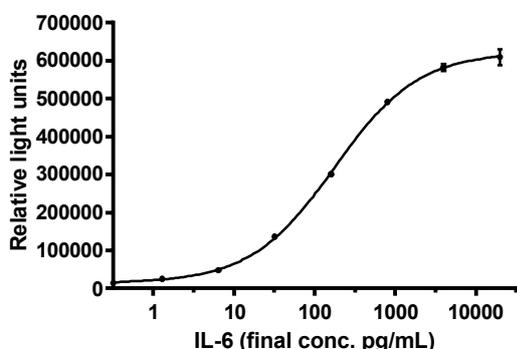

Figure 1. Example of IL-6 calibration curve.
The *iLite*® IL-6 Assay Ready Cells are engineered cells optimized to express Firefly luciferase under the control of a IL-6 responsive promoter. Binding of IL-6 to the membrane bound IL-6 receptor (IL-6RA and IL6ST) results in activation of the IL-6 regulated Firefly luciferase reporter gene construct. *iLite*® IL-6 Assay Ready Cells also contain the Renilla Luciferase (RL) reporter gene, under the control of a constitutive promoter. The constitutive expression of RL allows normalization of IL-6 induced FL activity, and renders assay results independent of variations in cell number or serum matrix effects. The luciferase signal can be measured in a luminometer following addition and incubation of luciferase substrate. The Firefly luciferase signal is proportional to the concentration of functional IL-6 in a sample (Fig.1).